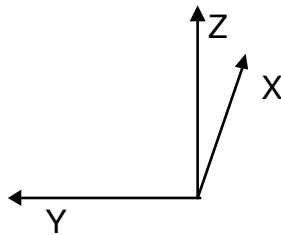

Figure 2
3. The TCM2 will take a measurement, then ask you to turn your system  $180^\circ$ . It is very important that this be as exact as possible. In general, this will require some sort of fixture to hold and position your sensor. Turn your system exactly  $180^\circ$ . Figure 2.